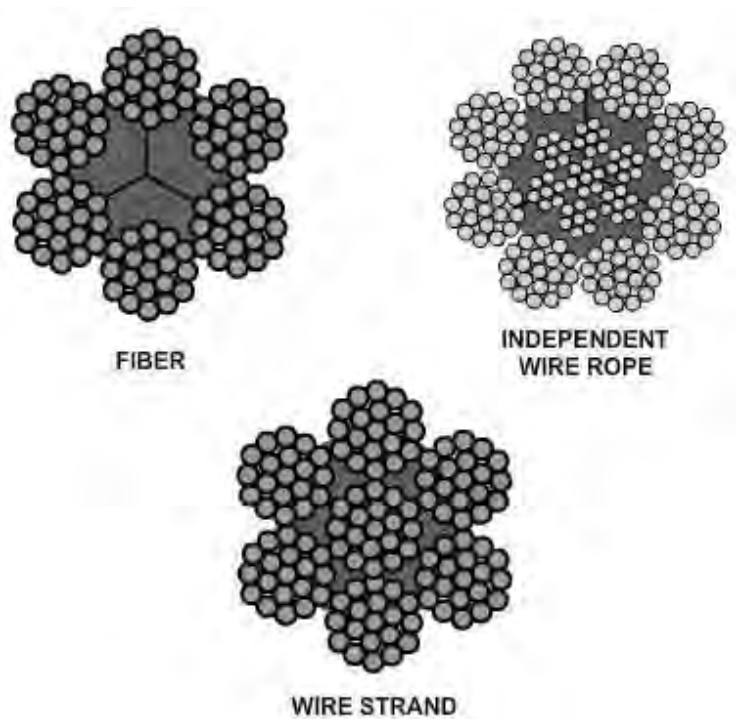

Figure 22-13 — Core construction.
- **Independent wire rope core (IWRC)** is a separate wire rope over which the main strands of the rope are laid. This core strengthens the rope, provides support against crushing, and supplies maximum resistance to heat. Refer to *Figure 22-13*.